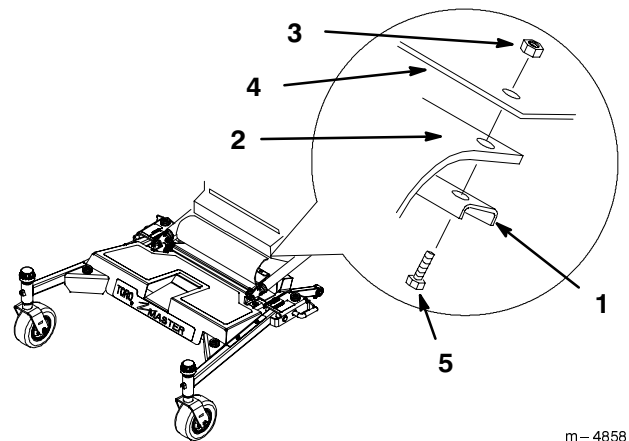

Figure 37
16. Install the rubber guard with bar, nuts and bolts under the motion control levers. (Fig. 37).